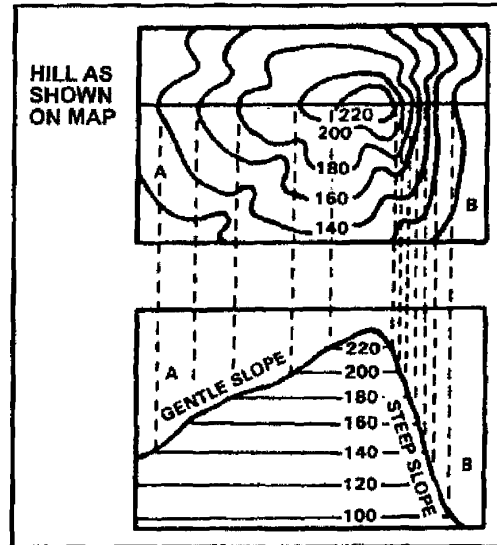

Figure C-25. Slope
c. Widely spaced contour lines show a gentle slope. When they are close together, the slope is steep (figure C-25).